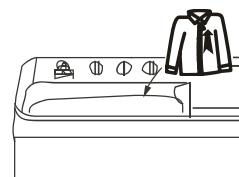

Figure 3
3.Put in the wash load. Add more water as necessary.(Figure3)